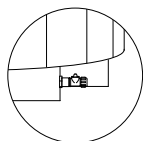

Figure 11.5a
2. Locate the hose bib, at the bottom of the hot tub, Figure 11.5a. Make sure that the valve is in the OFF position.